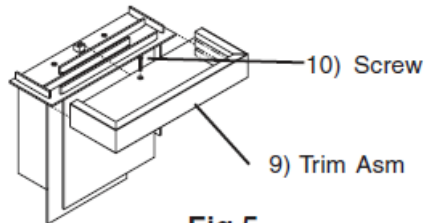

Fig 5
Slide Trim Asm (9) onto slotted diffuser panel aligning holes and secure with Screw (10). See Fig 5.